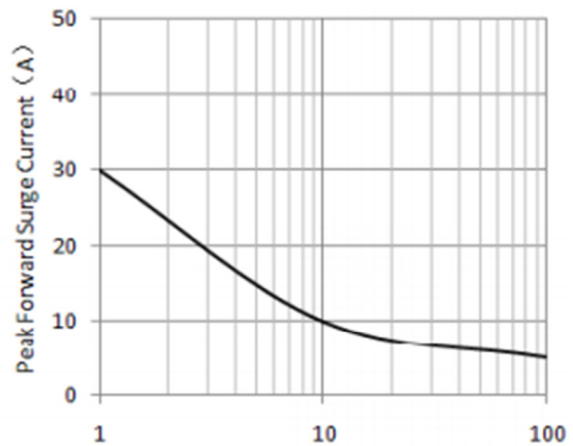
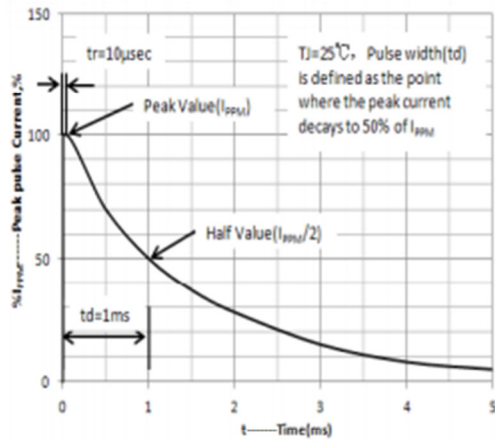
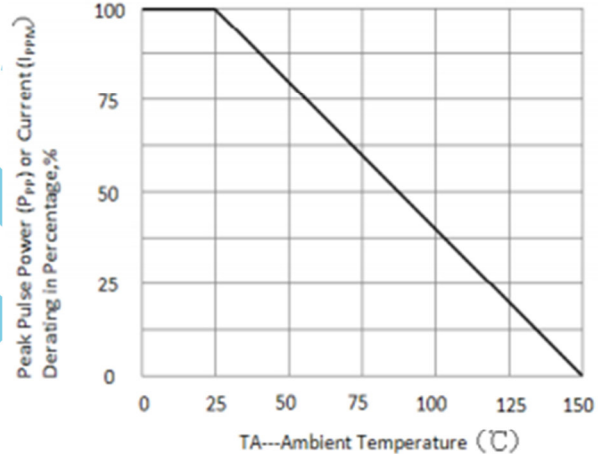

Figure 2. Maximum Non-Repetitive Peak Forward Surge Current
Figure 3. Pulse Waveform
Figure 4. Peak Pulse Power Derating Curve
Notes: 1. Non-repetitive current pulse, per Fig.3 and derated above $T_A = 25^\circ\text{C}$ per Fig.4
2. Surge current waveform per Fig.3 and derated per Fig.2